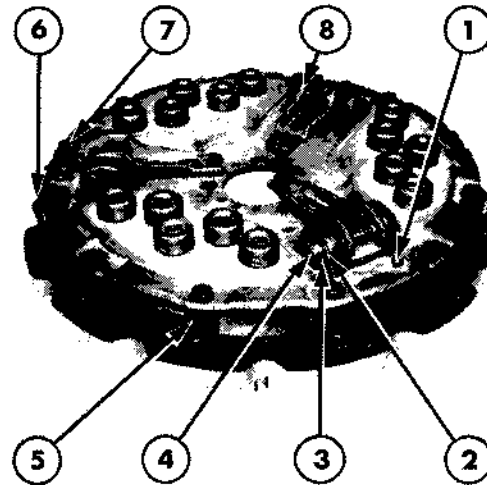

Figure 17
3. Secure the assembly to the Adaptors with the twelve special bolts, Figure 17. Tighten the bolts evenly and diagonally across the clutch.